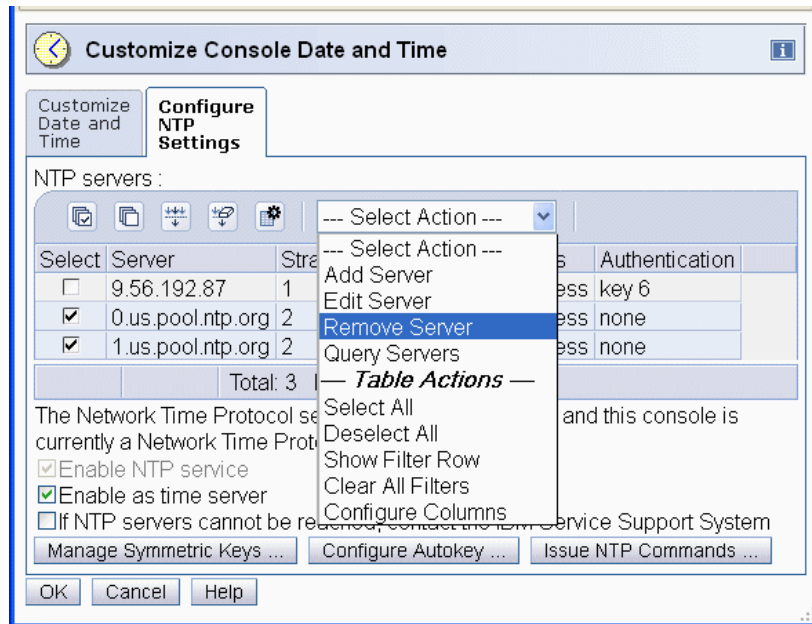

Figure 1-24 Remove two NTP servers
1. Select the check box of the NTP servers and click **Remove Server** in the Select Action pull-down menu (Figure 1-24).